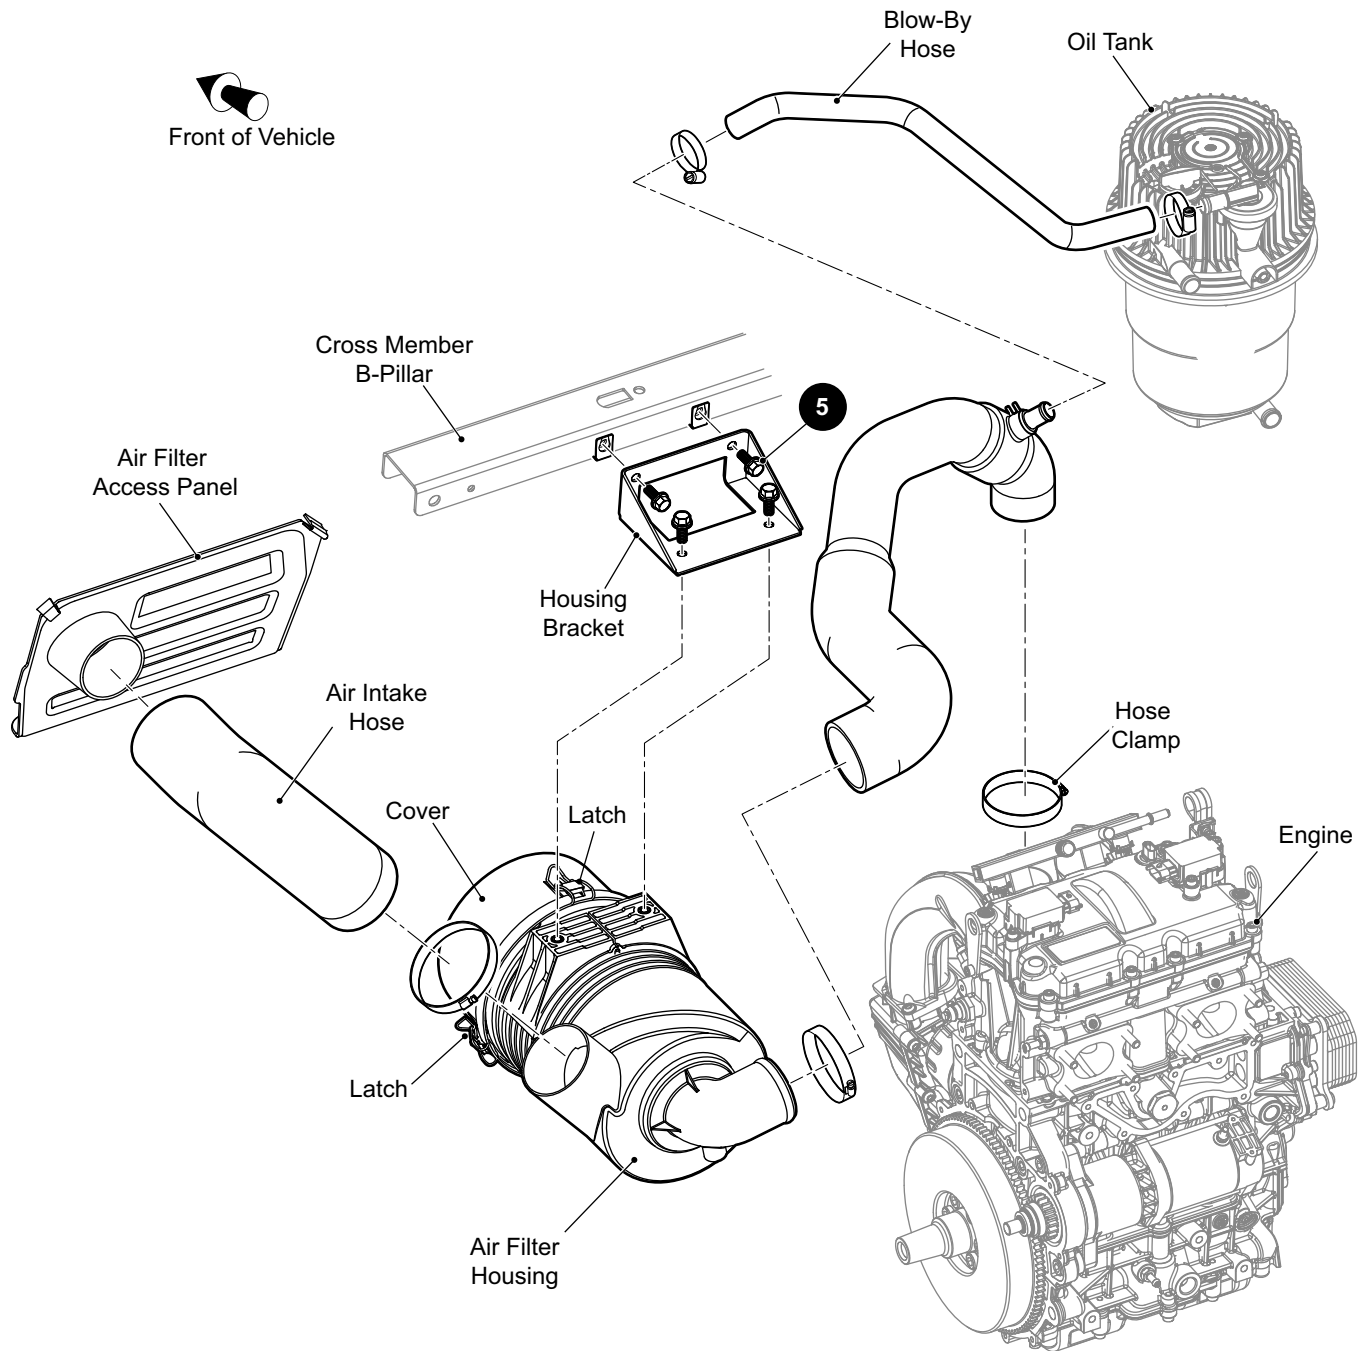

Fig. 1 Air Intake Components
1. Remove the access panel located behind the driver side seat (Ref. Fig. 1).